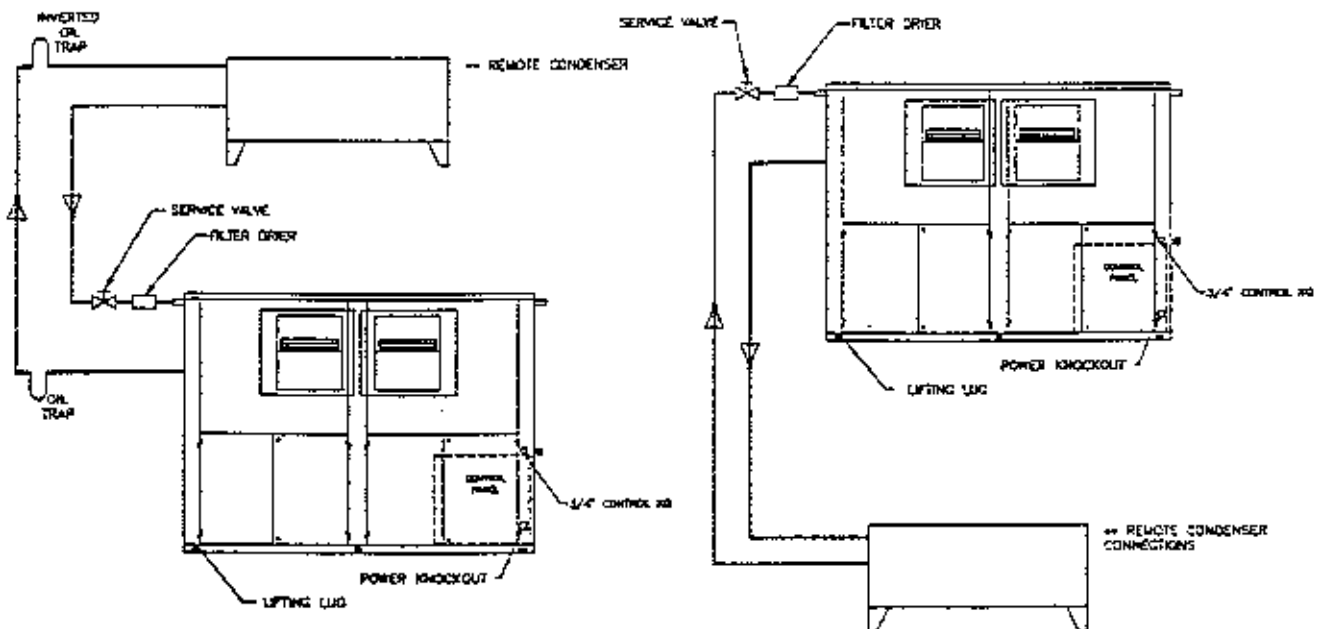

Figure 4
Refrigerant piping is only necessary on split system CP Units or when remote condensers are installed. Refrigerant piping is provided by the installing contractor. Referring to Figures 4 (Pages 9), pipe air cooled condenser or split system according to proven refrigeration practices.
3. Install an oil trap at the base of all hot gas risers. An additional trap is required for every 8.0 feet of rise. (See Figure 4 below.)